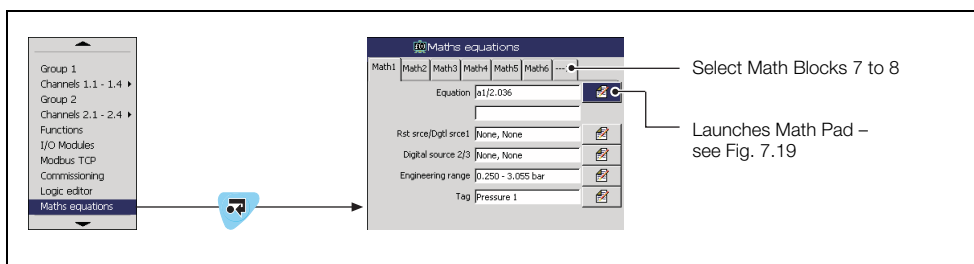

Fig. 7.18 Launching the Math Block Editor (Math Pad)
- Up to eight math equations can be configured individually using the 'Math Pad' – see Fig. 7.18.